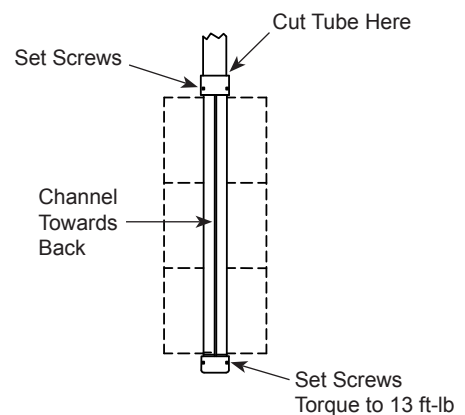

Figure 4
12. Screw the tube/gusseted tube into the lower arm stopping at a point where the channel (if using a gusseted tube) is facing away from the signal. (Figure 4)
14. Torque the set screws to 13 ft-lb in the upper and lower arms. (Figure 4) **DO NOT OVERTIGHTEN.**
15. Optional: Using the hack saw, cut off any excess tube protruding above the upper arm. (Figure 4)